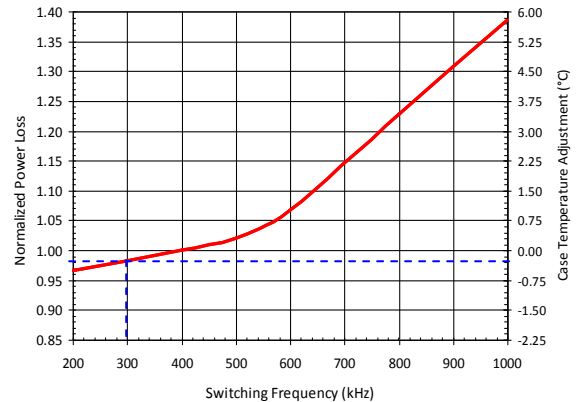

Figure 12: Normalized Power Loss vs. Switching Frequency
- 4) Determine the switching frequency normalizing factor with  $f_{SW} = 300kHz$ , which is 0.98 based on the dashed lines in Figure 12.